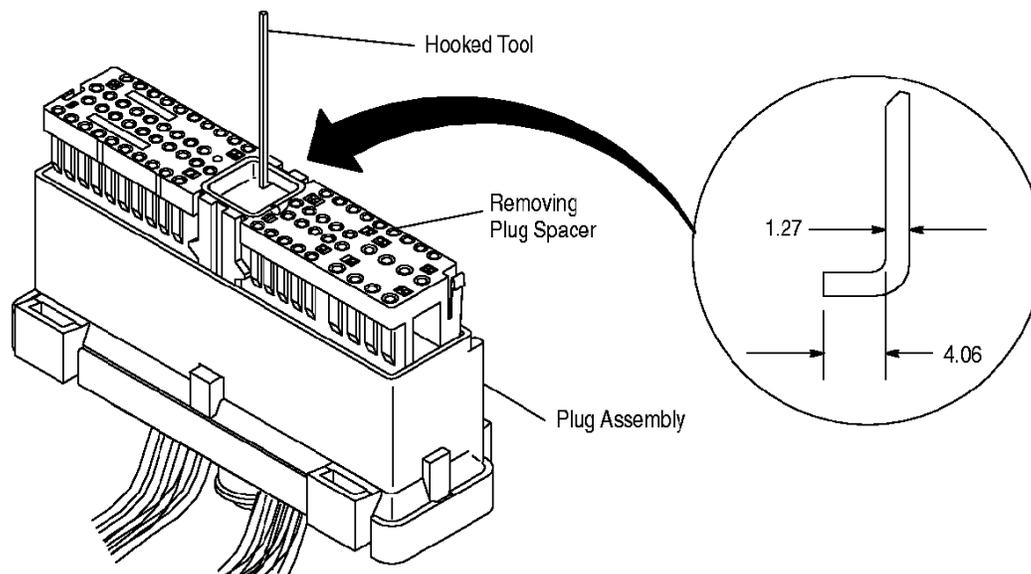

Figure 6
4. Déverrouiller les contacts en retirant le bloc de verrouillage (plug spacer) à l'aide d'un petit crochet (hooked tool) (voir figure 6).
3. To remove the plug spacer, insert any hooked tool into the opening around the jackscrew. Rotate the tool to catch the underneath the spacer. Pull spacer straight out from the plug housing. See Figure 6.